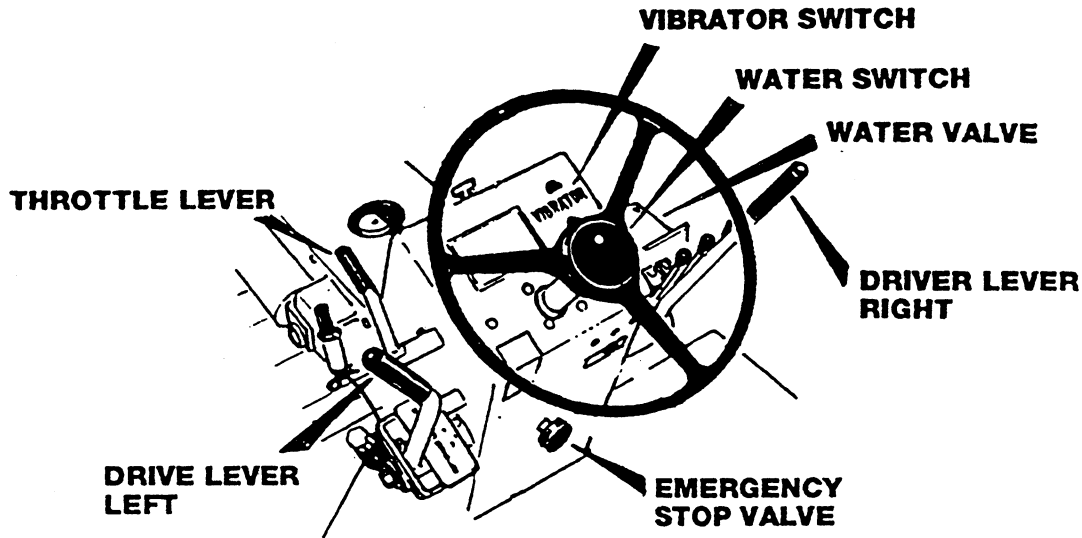

FIGURE 1
1. The water spray valve is located on the right side of the console. See figure 1.